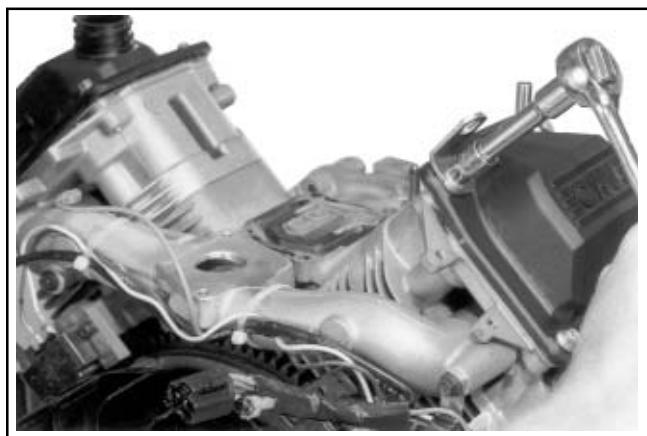

Figure 9-40. Removing Valve Covers.
2. Remove the valve covers, valve cover gaskets or O-Rings and any brackets or lifting straps. Note which side of the engine has the oil fill and or fuel pump valve cover. See Figure 9-40.